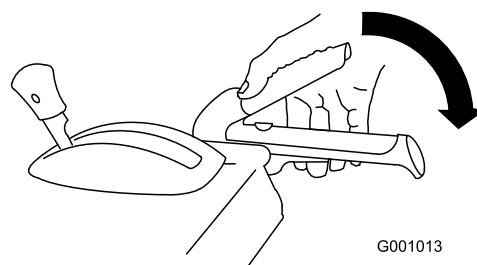

Figure 28
1. To engage the auger/impeller drive, squeeze the right hand (auger/impeller) lever to the handgrip (Figure 28).